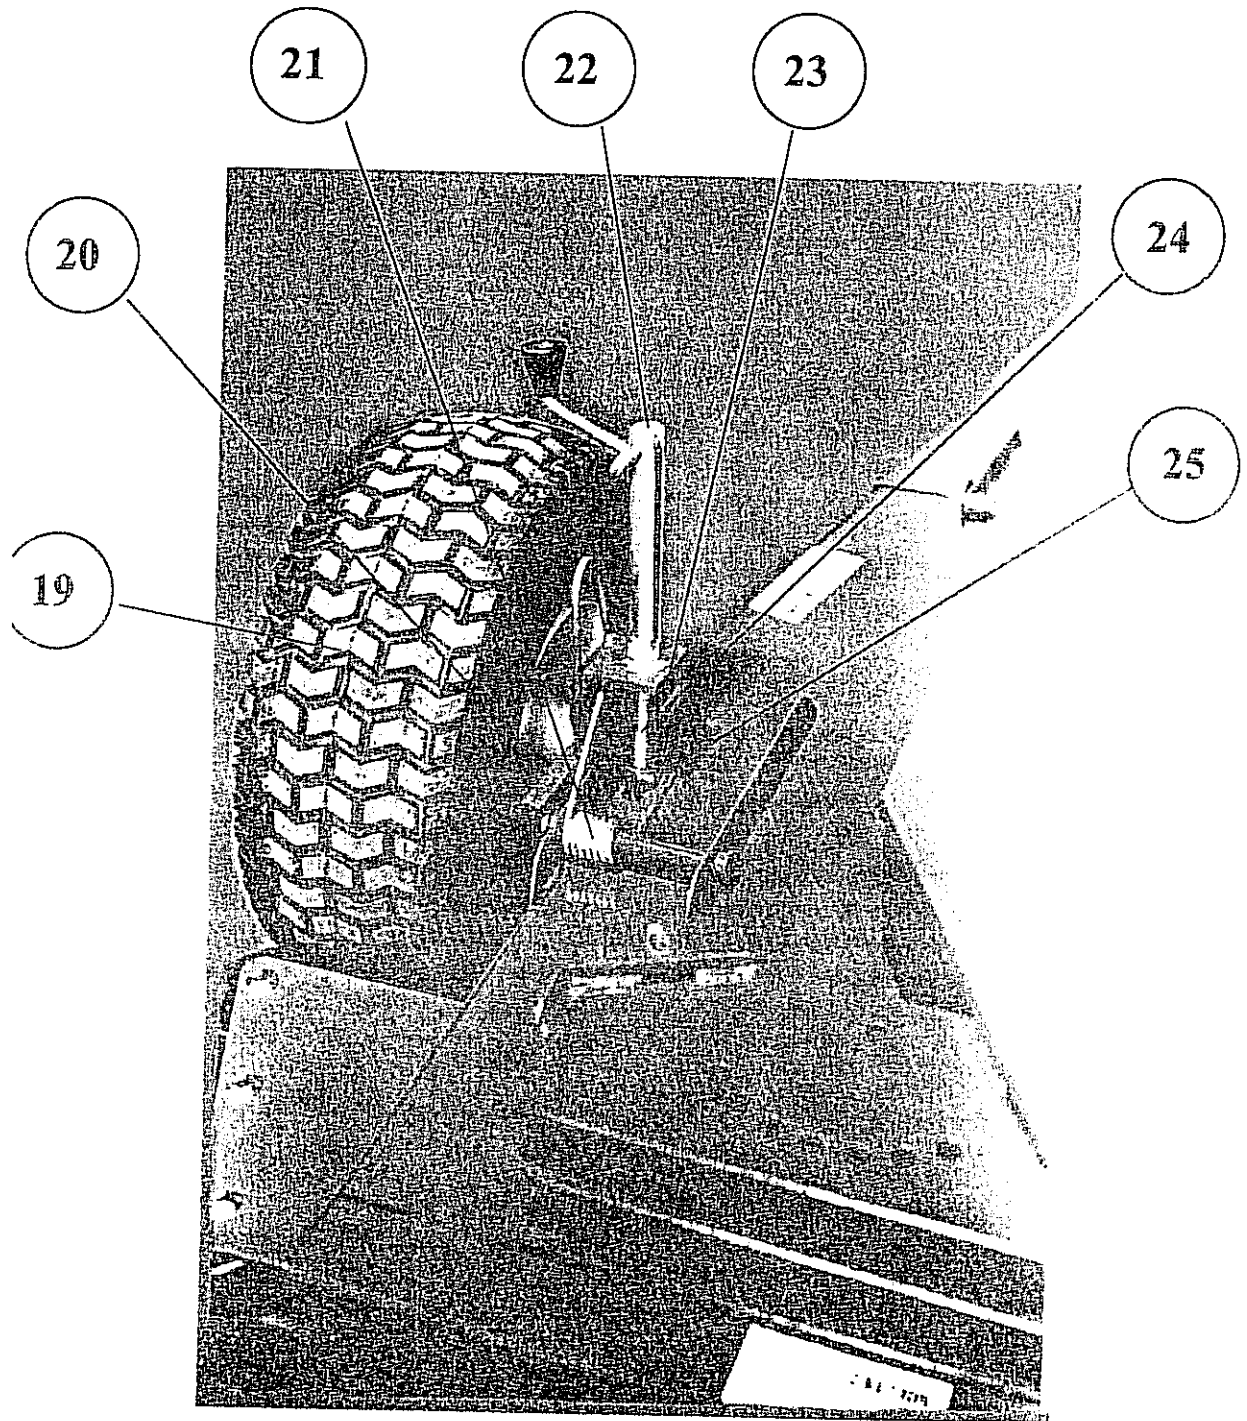

Figure 4
- Rotate height adjustment crank handles (item #22 in fig. 4) in a clockwise direction to raise the mower and in a counter-clockwise direction to lower.